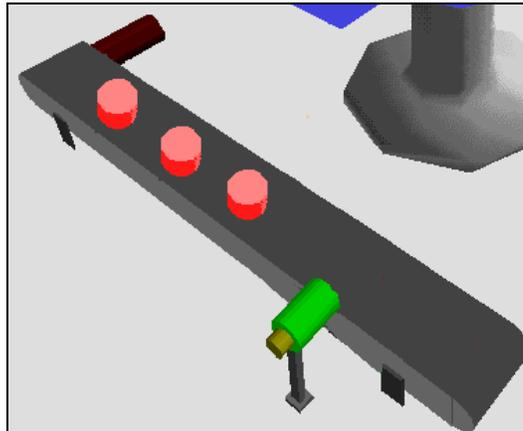

Figure 14-1
- 7 Place several round blocks in a row on the conveyor about 10 cm (4") apart, as shown in Figure 14-1, and run the program continuously. Remove each block from the conveyor after it is detected.